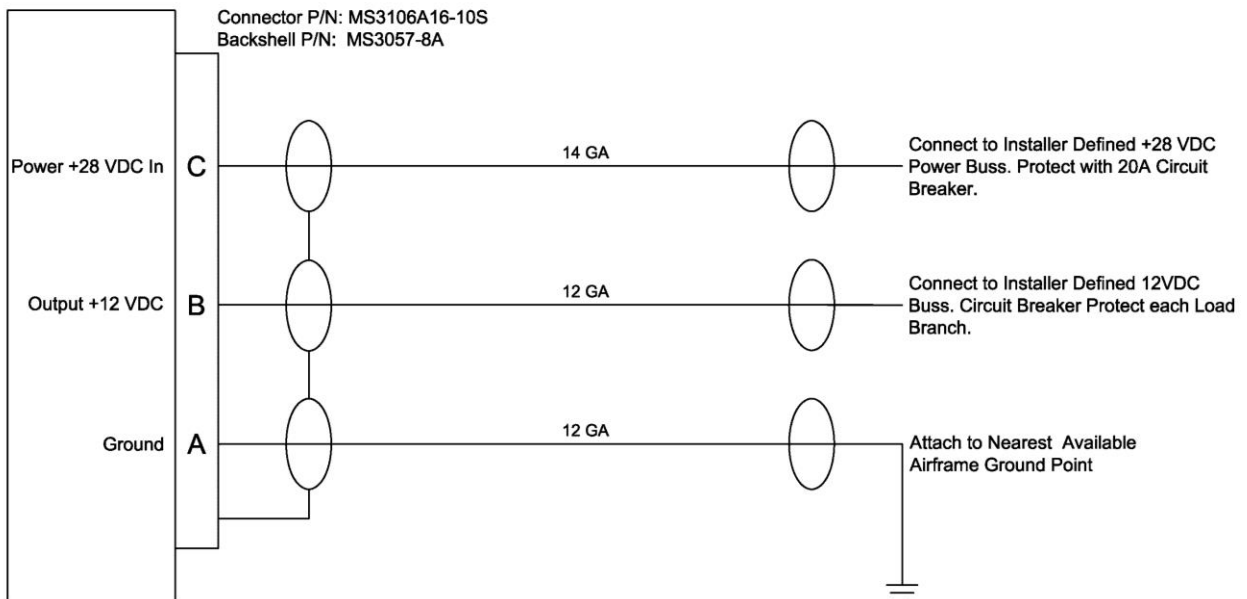

Figure 3: Cable Wiring
- b. Refer to Figure 3 for cable harness fabrication instructions.